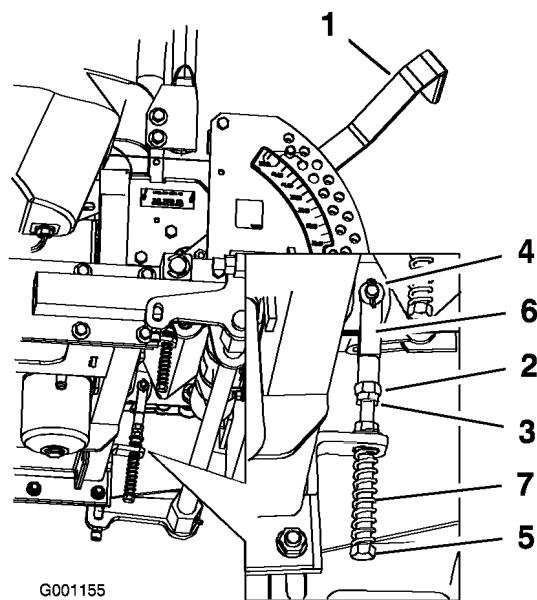

Figure 65
8. If adjustment is needed, loosen the nut and jam nut against the yoke (Figure 65).
9. Apply slight rearward pressure on the motion control lever, turn the head of the adjustment bolt in the appropriate direction until the control lever is centered in the neutral lock position (Figure 65).
10. Tighten the nut and jam nut (Figure 65).